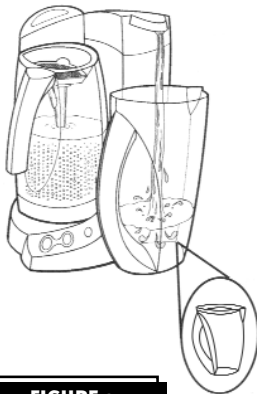

FIGURE 3
**AUTOMATIC DISPENSE:** Place the Clean Water Carafe (without the lid), under the dispense nozzle to activate the auto-dispense button **(FIGURE 3)**. Your carafe, which has been specially designed to activate the auto dispense button, will automatically be filled with water. Set on the table during meals. To keep the water cool, the carafe stores conveniently in most fridges.